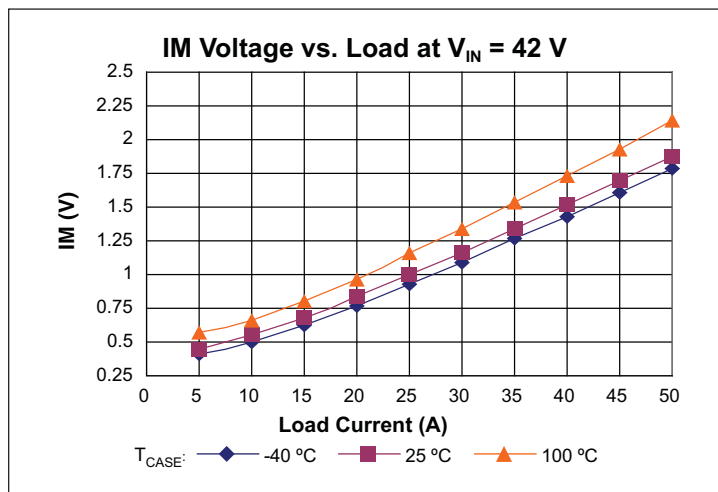

Figure 8 — IM voltage vs. load
**Current Monitor (IM)** pin provides a voltage proportional to the output current of the VTM module. The nominal voltage will vary between 0.39 V and 1.86 V over the output current range of the module (See Figures 8–10). The accuracy of the IM pin will be within 25% under all line and temperature conditions between 50% and 100% load.